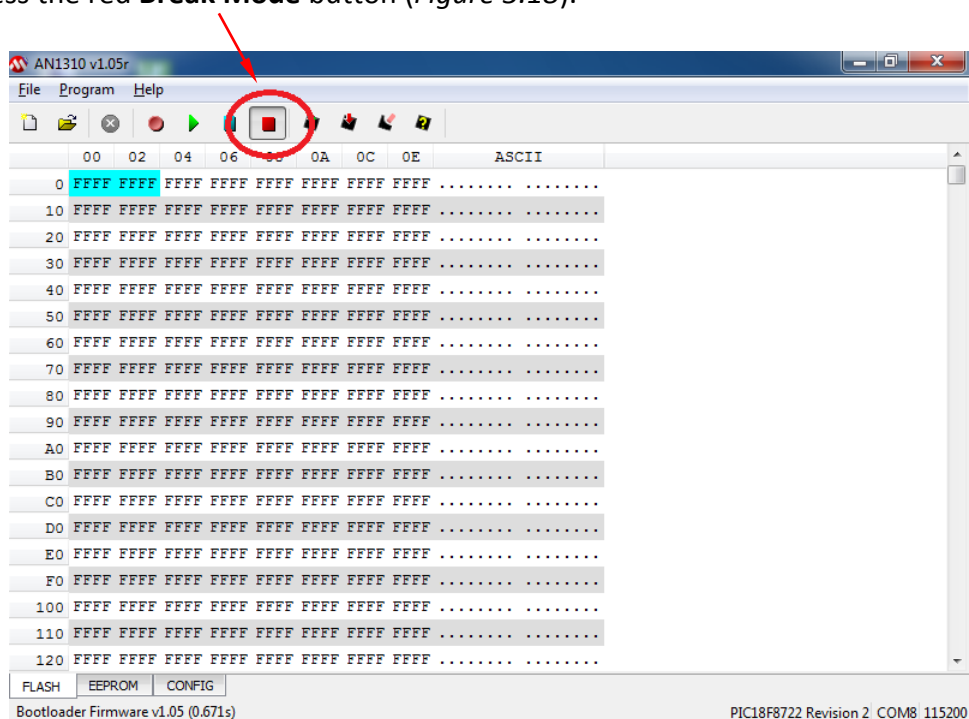

Figure 3.18
5. Press the red **Break Mode** button (Figure 3.18).